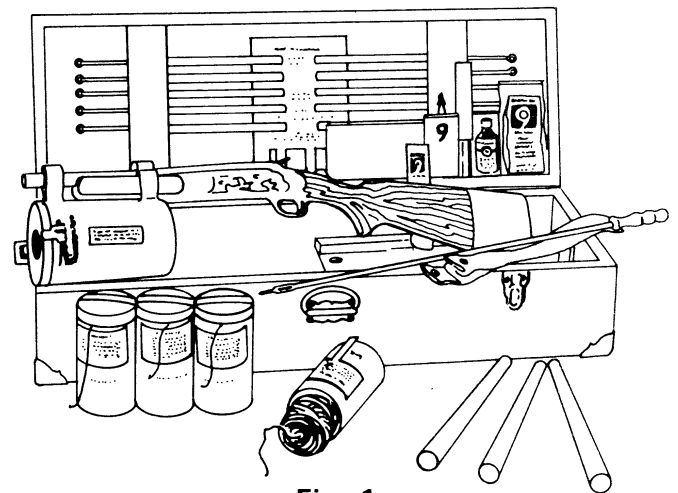

Fig. 1
2.04 The complete set of equipment is shown in Figs. 1 and 2. The description is as follows: